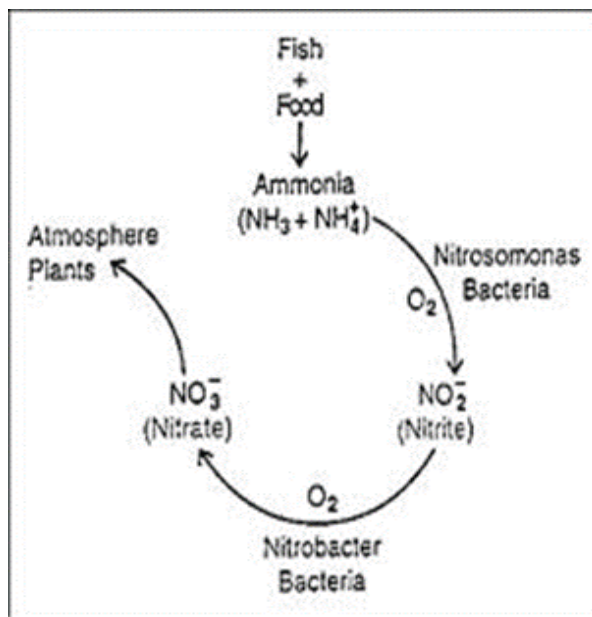

Fig. 7 A Portable ORP meter
- It is measured with respect to Hydrogen electrode, using an ORP meter (Fig 7).